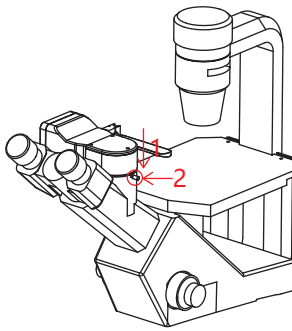

图2
- 2) Place the camera on the microscope and tighten the screws as shown in Figure 2;